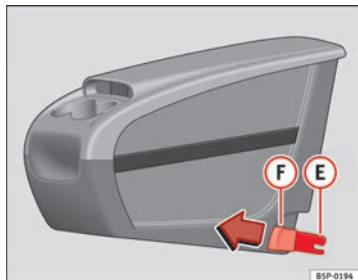
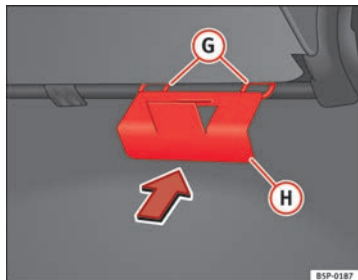

Fig. 112 Mobile storage compartment. Installation
Fig. 113 Mobile storage compartment mounting plate
- Fit the mobile storage compartment mounting plate **(H)** ⇒ fig. 113 from the inside of the vehicle, through the rear part of the seat. It should be fitted between the backrest and the seat, in the central seat area.
- Set both mounting pieces together **(E)** ⇒ fig. 112, with both mounting rings **(G)** ⇒ fig. 113 and press hard until both the clips completely connect with the rings.
- Pull each of the buttons ⇒ fig. 112 **(F)** on the clips (red buttons) forwards, until they snap out of place.